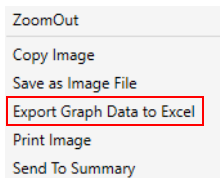

Figure 86 Option menu
- 1 Right-click anywhere on a chart or **Plate Map** to display an option menu and select **Export Graph Data to Excel**. (See Figure 86.)
Information about the experiment and assay properties is displayed in Project info 1 (in the Info folder) including the date the assay was performed, the assay result file name, and normalization unit. (See Figure 86.) The Notes display on the Project Info view shows the group layout, assay wells in each group, and indicates excluded assay wells using brackets (example: [A2]).